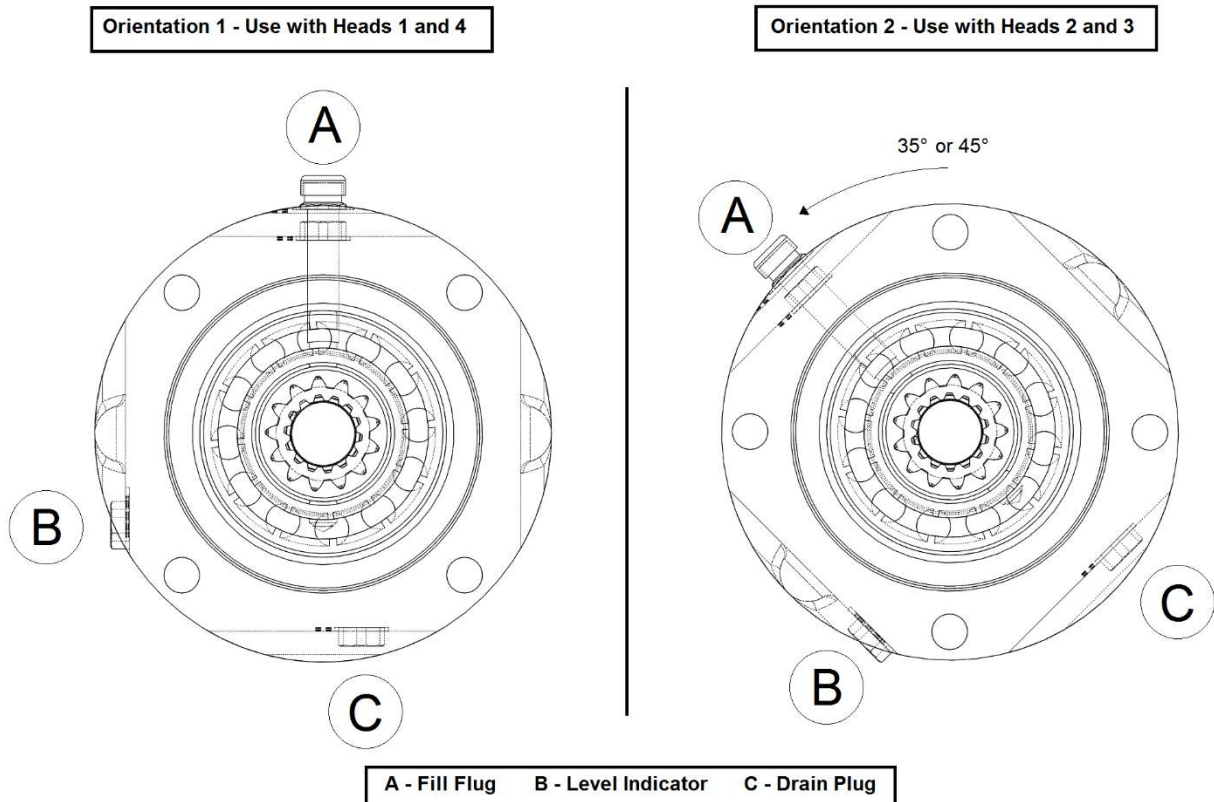

Figure 1: Head clutch orientation for the models WPD-00, 01, and 02. Use Orientation 2 for WPD-00. Use Orientation 1 & 2 for WPD-01 and WPD-02.
- 3.1.1 Install the head clutch on the head of the pump drive and rotate the clutch and align it to the corresponding threaded holes of the head, please refer to Figure 1 and 2 below.
- 3.2.2 Center the clutch on the head of the Pump Drive model WPD-01 or WPD-02 and refer to Figures 1 and 3 for proper orientation of the clutch on the head.
The clutch is supplied without oil. Fill the clutch with lubrication oil by removing the Fill Plug (A), see Figure 1 for location of fill port on the clutch. Please refer to Approved Oils section for a list of approved lubricants. The approximate oil capacity for the clutch is 3.4 fluid ounces (100 mL).